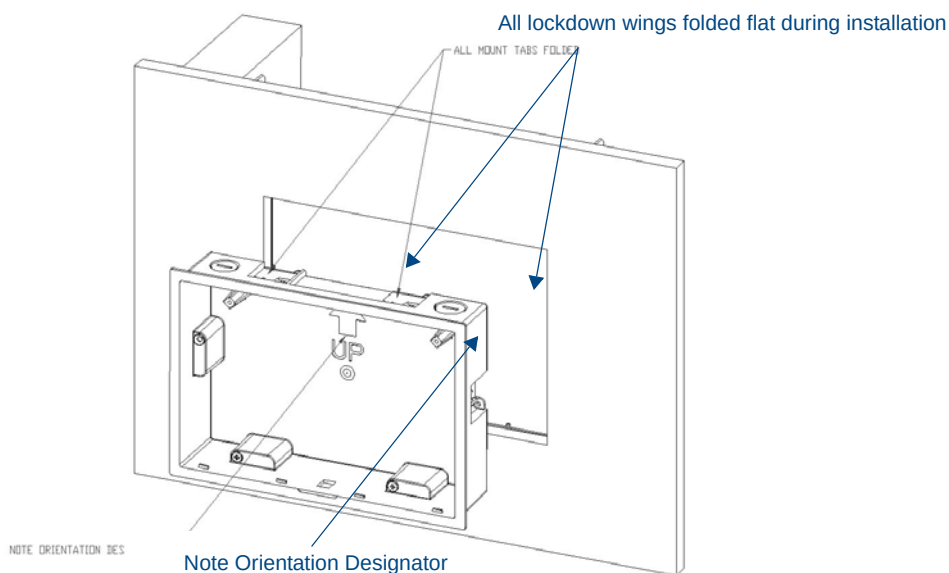

FIG. 7 Installation of plastic back box
4. Slide the plastic back box into the hole, being careful not to twist or pinch the cable, and set it flush with the wall (FIG. 7). Make sure that all of the lockdown wings are folded into their slots before attempting to insert the box. For ease of installation, the inside of the box has the direction "UP" labeled for reference.